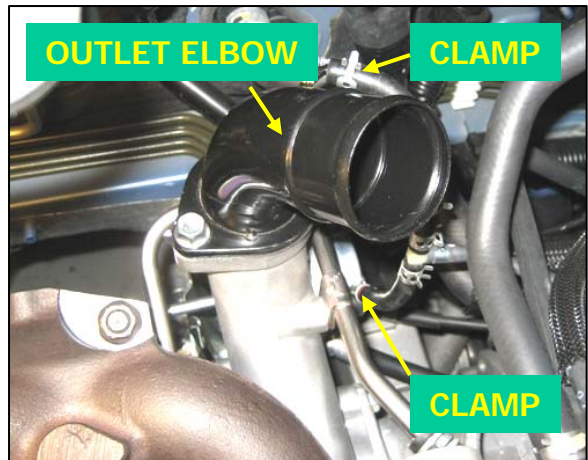

Fig. 10
- 11. Remove the vacuum / emission hose from the black metal compressor outlet elbow and from the wastegate actuator. Tag this hose for easy identification upon reassembly, and secure the hose out of the way in the engine compartment. These parts will be reused (2 hose clamps, pliers). See *Fig. 10*.